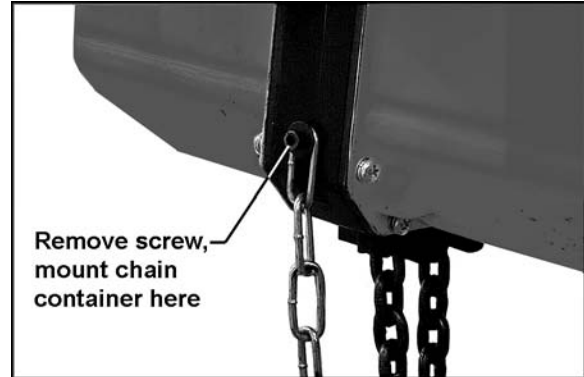
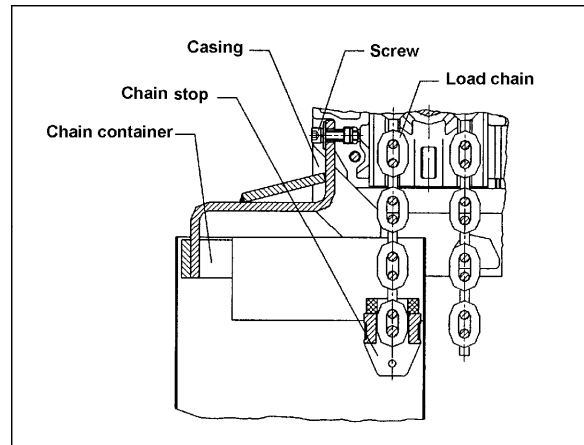

Figure 10
Figure 11
7. Remove the screw and washer holding the end chain to the hoist (Figure 10). Mount the bracket of the chain container in that location as shown in Figure 11.
8. Put the chain stop into the container (Figure 11), and operate the hoist to bring the load hook up until the upper limit switch is tripped.